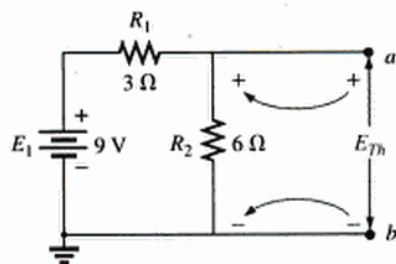

FIG. 9.29
Step 4: Replace the voltage source (Fig. 9.29). For this case, the open-circuit voltage E_{Th} is the same as the voltage drop across the $6\ \Omega$ resistor. Applying the voltage divider rule gives